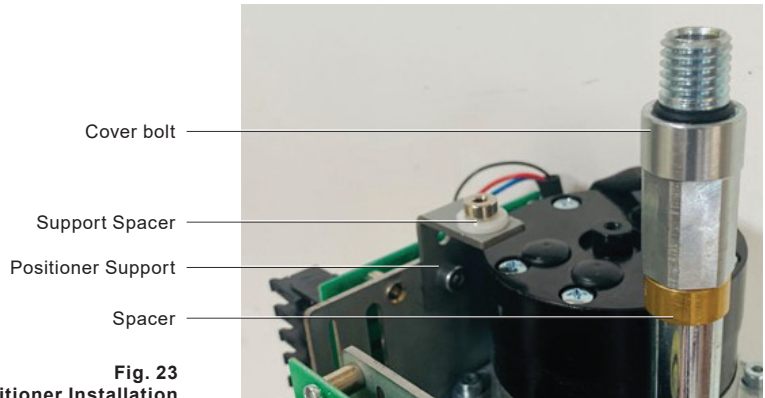

Fig. 23
- Fix the Positioner Support to the main board plate with the pin supplied (Fig. 23)
- 1 – 6 kN: Connect the potentiometer plug to the potentiometer socket on the positioner card referring to Fig. 23 "Installation of Positioner Card (1 – 6 kN)" for product orientation. The potentiometer wiring harness should be fed through the center of the positioner card as shown